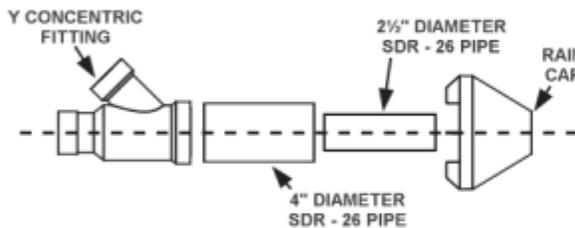

Figure 25
- a) Cement Y concentric fitting to larger diameter kit pipe, see Figure 25.
- b) Cement rain cap to smaller diameter kit pipe, see Figure 25.
- Cement the Y concentric fitting to larger diameter kit pipe, see Figure 25.
- Cement the rain cap to the smaller diameter kit pipe, see Figure 25.
NOTE: If assembly needs to be extended to allow side wall thickness requirement, the 2 pipes supplied in the kit may be replaced by using same diameter, field-supplied SDR-26 PVC (D2241) pipe. Do not extend 21 1/8" (53.6 cm) dimension more than 60" (1.5 m). See Figure 25.